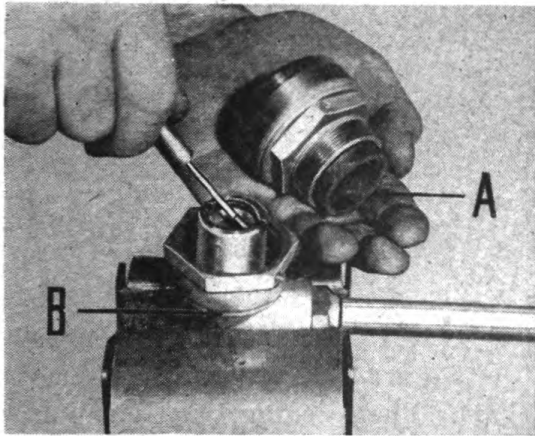
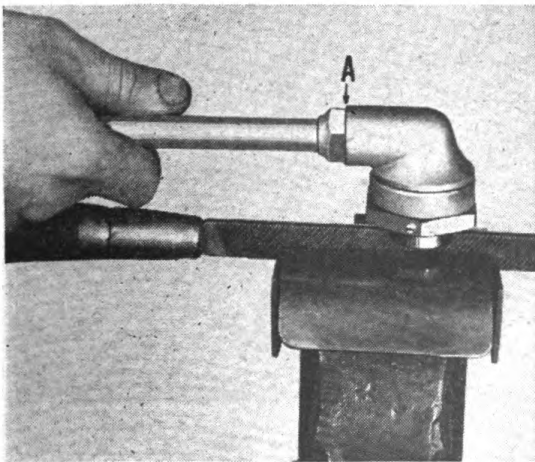

Figure 205
Figure 206
(3) Examine swivel packing ("A" Figure 205), and replace if necessary.
(4) If lubricant leaks at "B" Figure 205, remove swivel lock screw (See Figure 205), and unscrew swivel bushing. A handy method of removing swivel bushing is illustrated in Figure 206.
(5) Replace swivel bushing gasket and reassemble, making sure to line up hole in bushing with threaded hole for lock screw (See Figure 205).
(6) If lubricant leaks at "A" Figure 206, detach extension at this point, replace split packing, and reassemble.